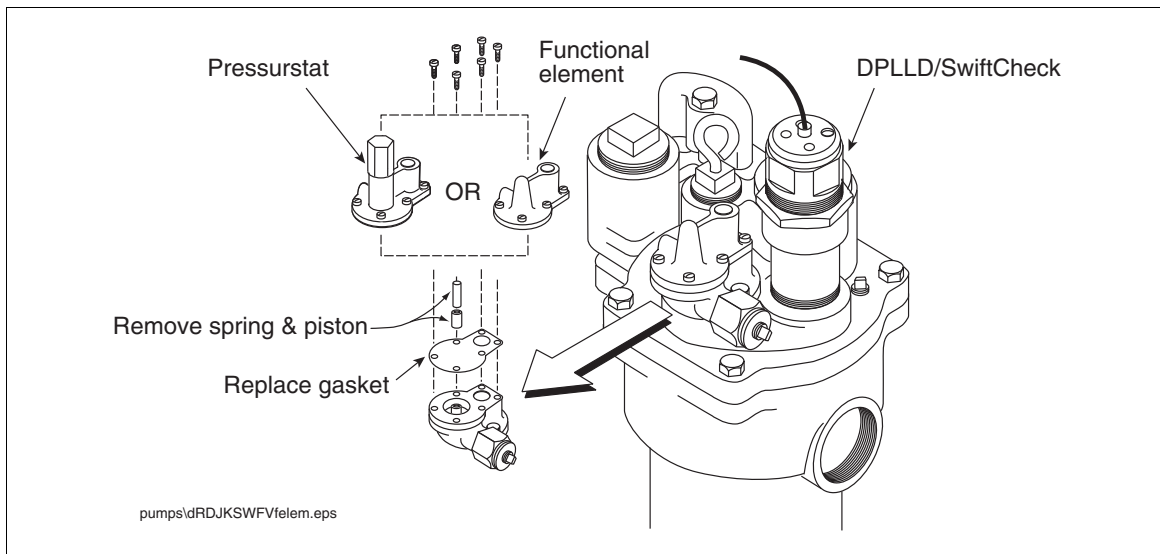

Figure 6. Modifying the pressurstat/functional element in Red Jacket pumps
10. The DPLLD SwiftCheck valve eliminates the need for the pump's Pressurstat or functional element relief valve so it must be modified as part of the DPLLD equipment installation. Remove the six 1/4-28 slot-head screws from the Pressurstat or functional element [Figure 6].